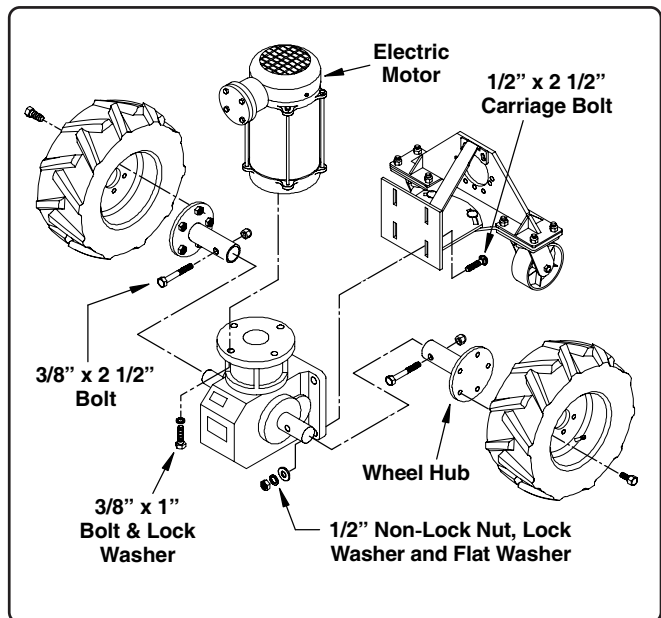

Fig. 4
3. Position the electric motor on top of the gearbox as shown in Fig. 4. Attach the motor to the top of the gearbox using four $3/8"$ x $1"$ bolts and lock washers (the bolts will pass up through the gearbox flange and tighten into the bottom of the motor).